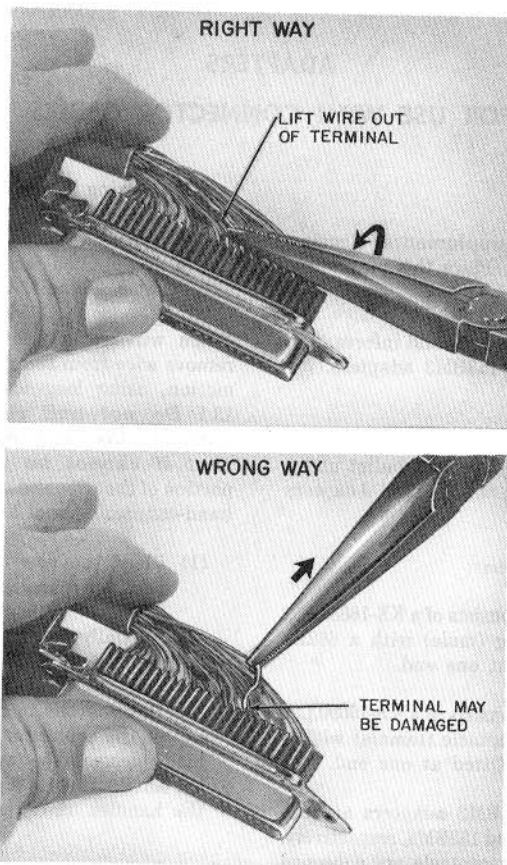

Fig. 13.1—Removing Terminated Wire
When wiring changes are required in the field, remove wire from terminal by lifting with a rolling motion, using long-nose pliers as shown in Fig. 13.1 ***Do not pull the wire parallel to the slot as this may damage the terminal so that it cannot be reused.*** Cut off the used portion of the wire and reterminate using a KS-21872 hand-connecting tool as follows:
**2.002** Add new Fig. 13.1.